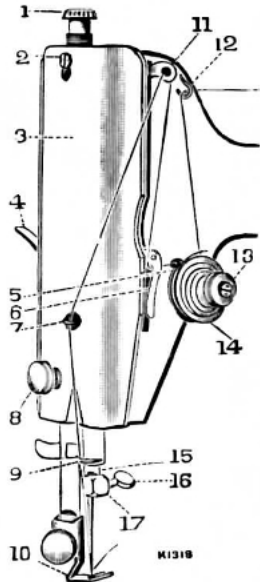
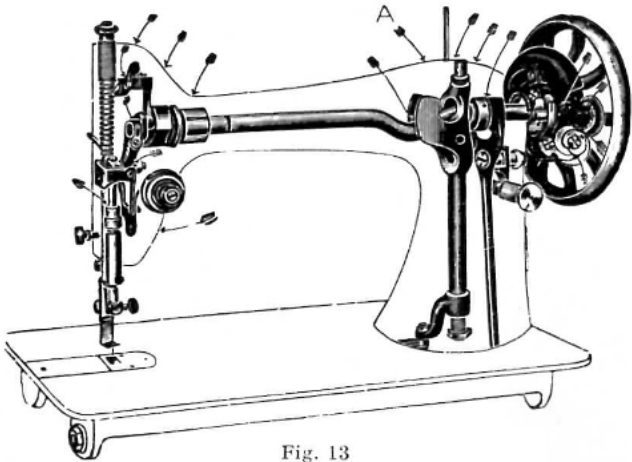

Fig. 3
Fig. 13
(See Fig. 3).
Loosen the balance wheel, and place a reel of thread on the spool pin. Pass the end of the thread through the wire guide (12, Fig. 3), then into the lower eyelet (5) of the thread guide from below, and into the notch (2) at its top. Now thread the bobbin by passing the thread through the hole in its left disc from the inside, and with the left hand press it on to the bobbin winder spindle (1) and hold. Then, with the right hand, turn the small pulley (6) until the hole in the right disc of the bobbin is engaged by the pin in the spindle shoulder. Press the pulley against the ledge of the balance
Raise the take-up lever (11, Fig. 3) to its highest point, by turning the balance wheel towards you, and lift the presser foot; then move the material back and to the left, and sever the threads by passing them over the thread cutter above the presser foot. Leave the ends of the threads a few inches long under the presser foot.
For ordinary family sewing it is seldom necessary to change the pressure on the material. If sewing fine silk or flimsy material, lighten the pressure by giving the thumb screw (1, Fig. 3) two or three turns upwards. If it be found necessary to increase the pressure, give the thumb screw a few turns downwards.
All moving parts in contact must be covered with a film of oil **and not allowed to become dry**. Oil should always be applied at the points indicated by arrows in Figs. 13 and 14, a drop of oil being sufficient at any place. To oil the needle bar mechanism, remove the face plate (3, Fig. 3) by taking out the thumb screw (8, Fig. 3); then loosen the small screw (2, Fig. 3) and slip the plate up and over the latter. **It is most important that oil should be applied at the point marked "A" (Fig. 13) when the take-up lever (11, Fig. 3) is at its lowest point.** When oiling, insert the oil can spout well into the oil holes. Apply a drop of oil to the small piece of felt lubricating the oscillating hook and to the rollers at the right of the hook shaft.
The thread take-up spring (5, Fig. 3) being broken.
Stitches Looping.—This is regulated by the tensions (see page 11). See that both the bobbin case and the needle are properly threaded, that the thread used is of good quality and the correct size for the needle (see table on inside of back cover). See that the thread take-up spring (5, Fig. 3) is not broken.